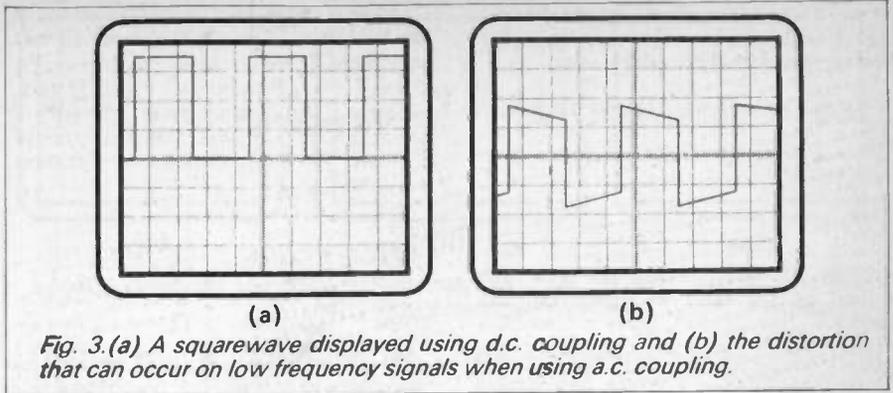

Fig. 3. (a) A squarewave displayed using d.c. coupling and (b) the distortion that can occur on low frequency signals when using a.c. coupling.
D.C. coupling is also better in that it gives a more accurate representation of waveforms that have a significant low frequency content. A low frequency squarewave displayed using d.c. coupling will be shown properly, as in Fig. 3(a). Using the a.c. setting it would look more like Fig. 3(b). This waveform distortion is due to the inevitable low frequency roll-off